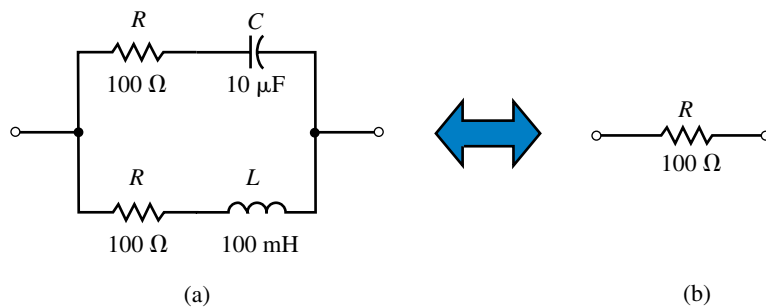

FIGURE 18–120
58. Show that the networks of Figure 18–121 have the same input impedance at frequencies of 5 rad/s and 10 rad/s.